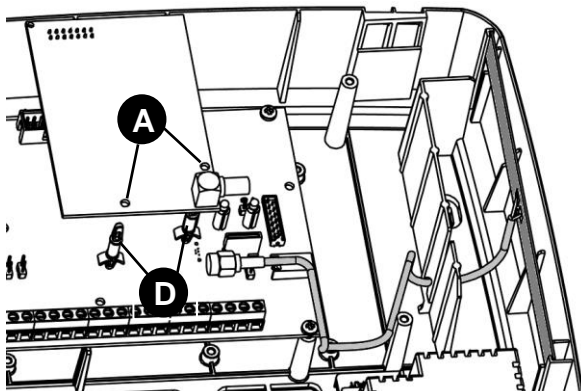

Fig. 1
- Insert the two support spacers supplied into the holes (**D**) located on the motherboard near the bottom right corner of the area occupied by the module (**Fig.1**). The spacers (**D**) must be inserted with the spring-mounted support tab resting on the motherboard.